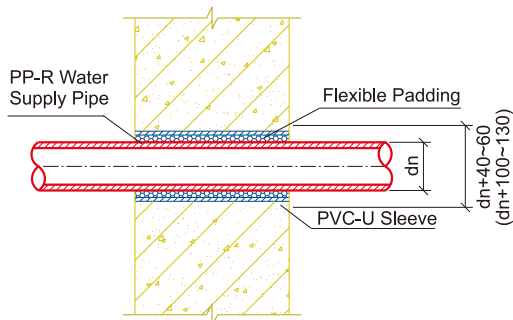

Fig.11 Unit: mm
- 3.4** Well prepare the anti-leakage measurements when the pipe crosses the roof surface for bearing persons or non-bearing persons. The construction details have been showed in figure 11 and 12.